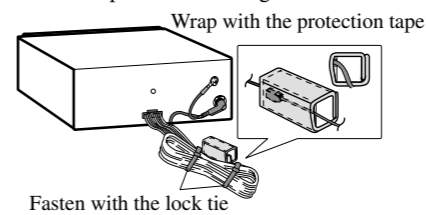

Fig. 9
• When installing the optical cable connection box with the lock tie. (Fig. 9)